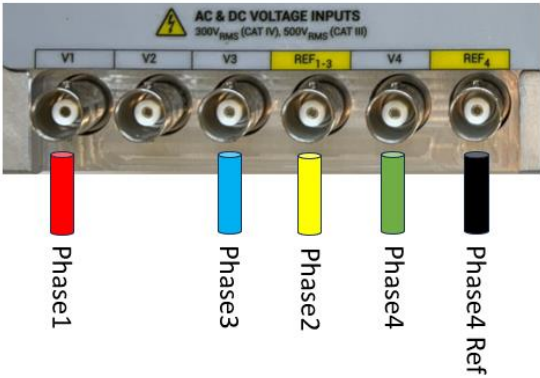

Figure 21: VECTO Transient 3-wire Delta Voltage Connection Layout
- 1) Connect Phase 1,2 and 3 to Voltage Inputs 1-3 as shown in the Figure 21.